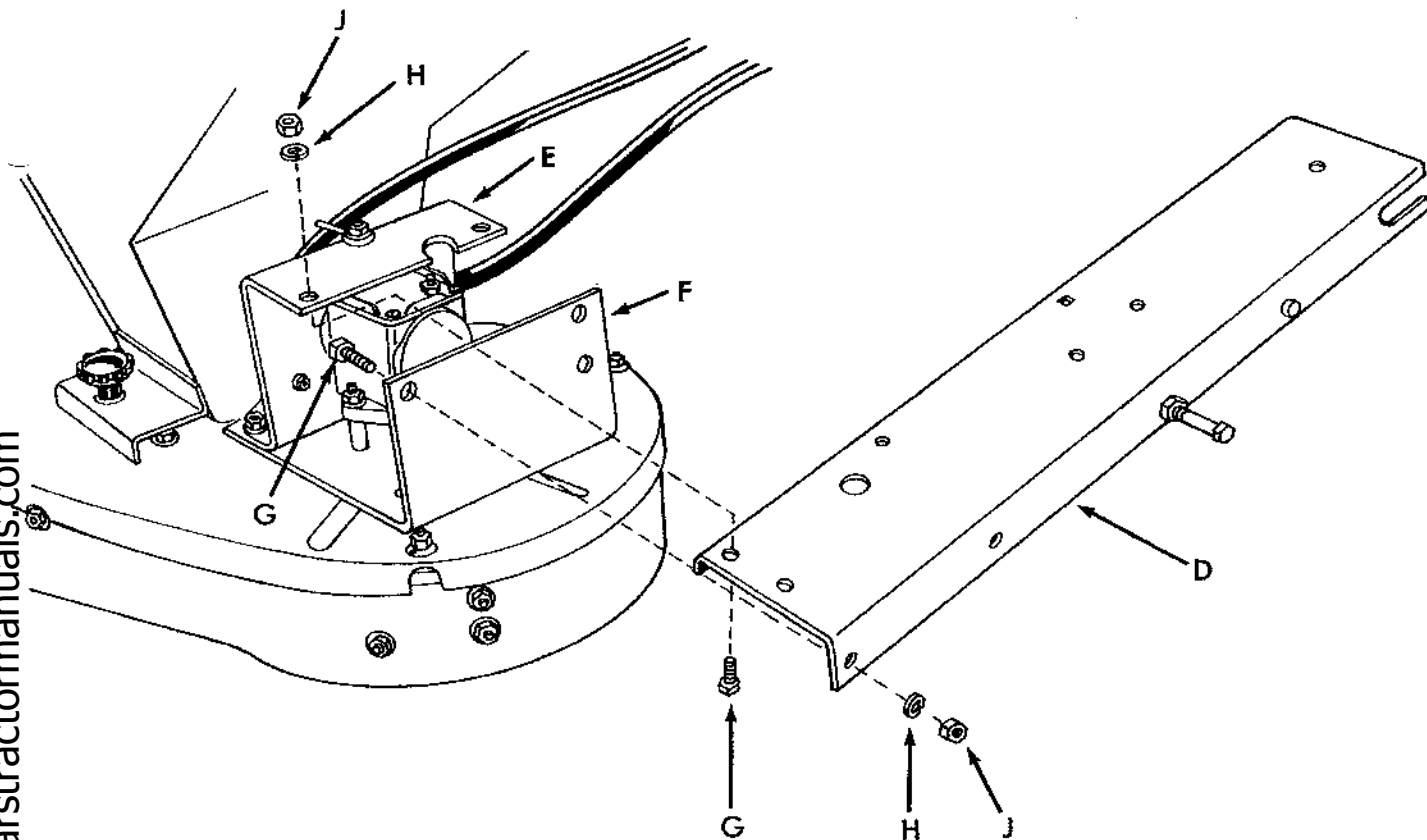

FIG. 2
2. Remove wire, holding brake assembly to inside support channel and weld pins (D) Fig. 2.
Refer to Fig. 2. Assemble support channel and weld pins (D) to hanger bracket R.H. (E), and hanger bracket L.H. (F). Use 4-3/8 x 7/8 hex hd. bolts (G), 3/8 lockwashers (H), and 3/8 hex nuts (J), found in plastic bag for assembly. Tighten all 4 bolts securely.